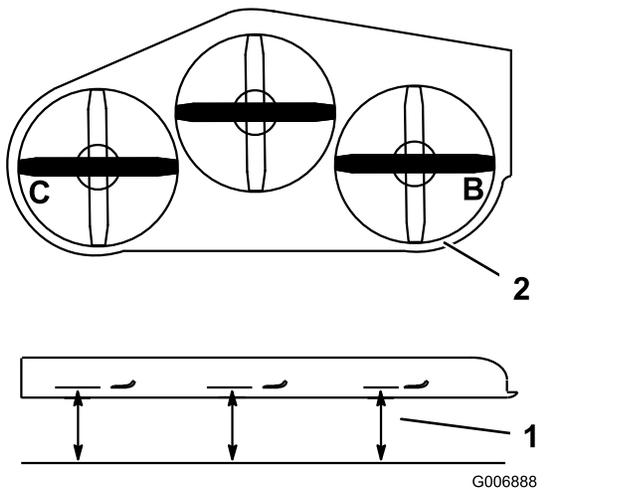

Figure 111
1. Position the **right** blade side-to-side (Figure 111).
2. Measure the right blade at the **B** location, from a level surface to the cutting edge of the blade tip (Figure 111).
4. Position the left blade side-to-side (Figure 111).
5. Measure the left blade at the **C** location (Figure 111), from a level surface to the cutting edge of the blade tip.